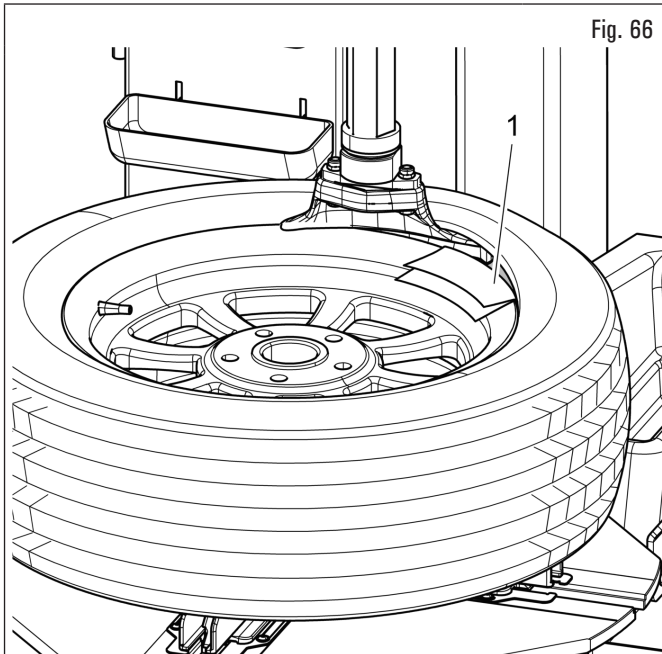

Fig. 66
10. if the rim is made of light alloy, fold up a bead protection foil and wrap the edge of the rim under the toolhead (Fig. 66 ref. 1), to prevent damage to the rim due to contact with the lever and favour the sliding of the bead on the edge of the rim.